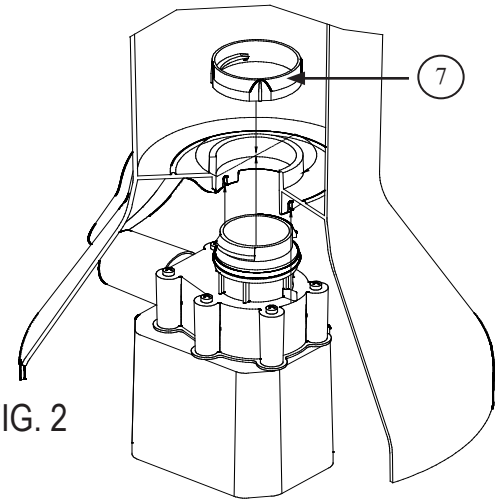
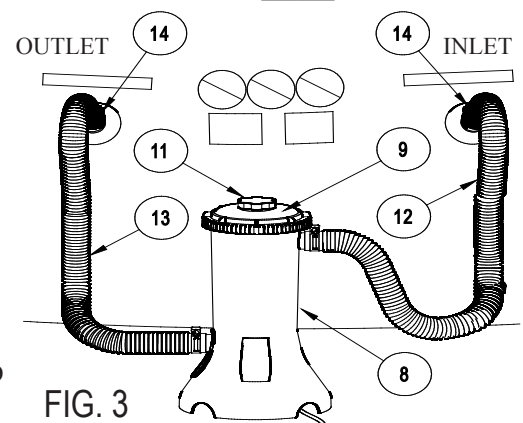

FIG. 2
FIG. 3
- A. First, remove the Seal Top Retainer (10), Seal Top (9), and Filter Cartridge (15) from the assembled Filter Case. Lubricate the pump O-ring (5) with petroleum jelly. Hold the Filter Case (8) securely, and insert pump assembly (1) so that the outlet on the Volute Housing (4) extends out of the opening in the side of the base. Insert the pump until it bottoms out, and the two ribs on the volute housing insert into the two slots on the bottom of the filter case. Reach down inside the filter case and place the Pump Retaining Nut (7) over the top of the volute housing inlet. Twist the Nut (7) clockwise until it is snug. See Fig. 2.
- B. Get the Intake and Return Hoses (12, 13), and remove two Hose Clamps (14), from the hardware bag. Loosen the hose clamps and slide them over one end of each hose. Lubricate O-rings (24) on the filter case. Install one hose on the filter case inlet, and one hose on the filter case outlet. Tighten both of the Hose Clamps (14).
- C. Locate both sets of Pool Wall Fitting assembly parts (16-21). Lubricate the black Wall Fitting Gasket (21) and install it over the threads on the Pool Wall Fitting (16). Insert the pool wall fitting with a gasket through one of the holes in the wall from the inside of the pool. Place the white Wall Thrust Washer (17) over the pool wall fitting and then thread the Wall Fitting Nut (18) onto the fitting until it is hand tight. **DO NOT** over tighten the wall fitting nut or wrinkle the pool wall around the Wall Fitting Thrust Washer (17) or Wall Fitting Gasket (21). Plug the Pool Wall Fitting (16) with the Wall Fitting Plug (20) from the inside of the pool. Repeat this step for other set of pool wall fittings, installing them in the other hole in the wall. Set the Wall Fitting Strainers (19) aside for later. Start filling pool.
- D. After the pool is filled, position the Filter Assembly between the two fittings on the side of the pool, about 6 inches out from the base. The intake hose (12), coming from the top of the filter case should be facing the right, and the return hose (13) coming from the pump, on the lower side of the case, should be facing the left; see Fig.3.
- E. Slip both of the remaining Hose Clamps (14) over the ends of the two hoses. Lubricate O-rings (24) on the wall fittings then connect the hoses to the intake and outlet wall fittings located on the side of the pool. The intake fitting is on the right, and the return fitting is on the left. Secure both of the hoses in place by tightening the two Hose Clamps (14).
- F. Unscrew the Vent Screw (11) from the Seal Top (9) about 1-1/2 turns. **NOTE: VENTING THE SYSTEM IS NECESSARY FOR AIR TO ESCAPE AS THE FILTER CASE FILLS WITH WATER.**
- G. Remove the two Wall Fitting Plugs (20) from the intake fitting and return fitting on the inside of the pool. This allows the filter system to fill with water. **DO NOT** discard the Wall Fitting Plugs (20) - You will need them when you change the Filter Cartridge or service the pump. When full, water should be coming out of the groove of the vent screw. Hand-tighten the vent screw into the seal top until the O-Ring seals around the screw and no more water is escaping. Now take the two Filter Intake Screens (19) and snap them over both of the Thru-the-Wall Fittings (16).